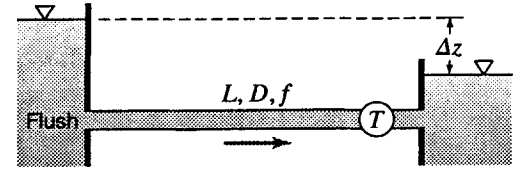

Figure P8.73
8.73 In a testing laboratory, a certain turbine has been found to discharge 10 cfs under a head h_t of 45 ft. In the field, it is to be installed near the end of a pipe 360 ft long (Fig. P8.73). The supply line (flush entrance) and discharge line (submerged exit) will both have diameters of 10 inches with $f = 0.025$. The total fall from the surface of the water at intake to the surface of the tailwater will be 52 ft. What will be the head on the turbine, the rate of discharge, and the power delivered to the flow? Note that for turbines, $Q \propto \sqrt{h_t}$ (from Eq. 16.17).